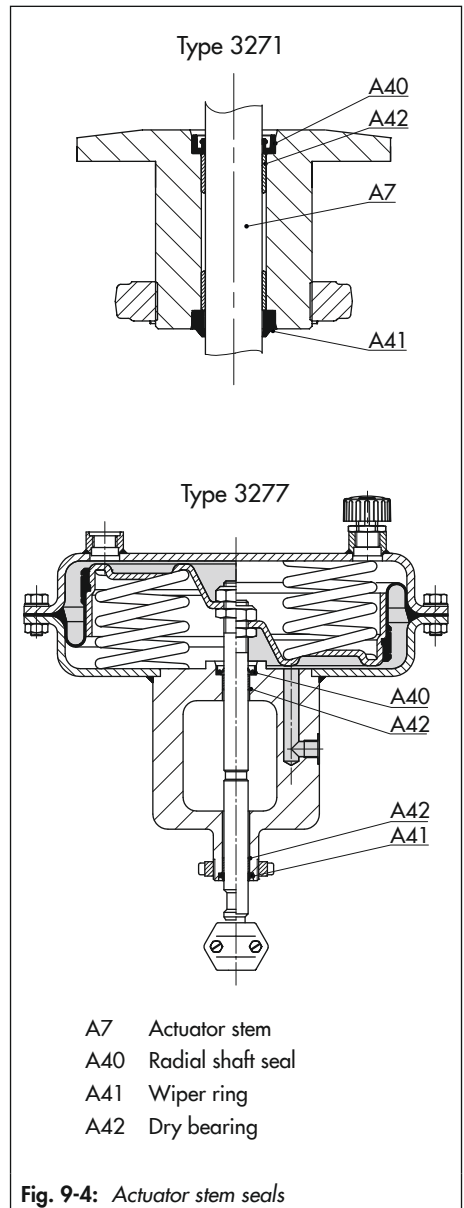

Fig. 9-4: Actuator stem seals
Refer to Fig. 9-4
6. Use a suitable tool to mount the radial shaft seal. Observe the correct alignment of the radial shaft seal (see Fig. 9-4).
7. Use a suitable tool to mount the radial shaft seal. Observe the correct alignment of the radial shaft seal (see Fig. 9-4).